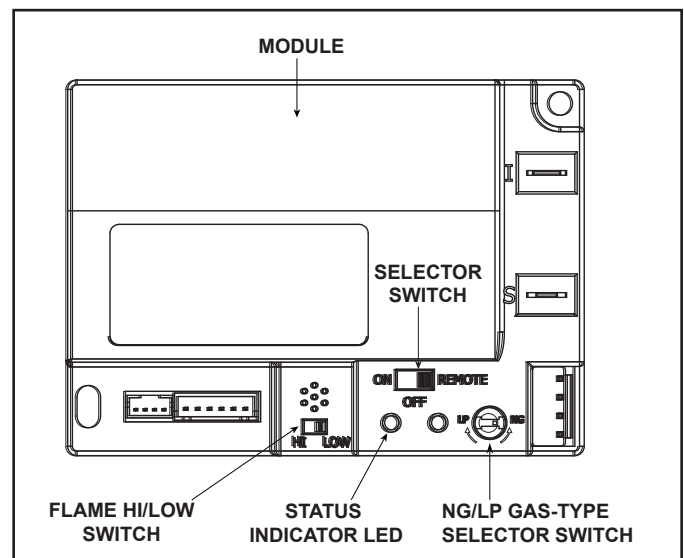

Figure 2.6 Control Module
1. The control module has an ON/OFF/REMOTE selector switch that must be set. See Figure 2.6.
2. If using a wired wall switch with the module in REMOTE mode, the flame output can be adjusted with the HI/LO selector switch on the module. See Figure 2.6. Note that the flame HI/LO selector switch will become inactive once an optional remote control (RC200/RC300) is programmed to the control module. Note that the control module will always ignite the fireplace on HI and remain so for the initial 10 seconds of operation. If the HI/LO is switched to the LO position, the flame output will automatically drop to the lowest setting after the flame has been established for 10 sec. After this 10 second period, the flame can be adjusted from HI to LO with the switch.